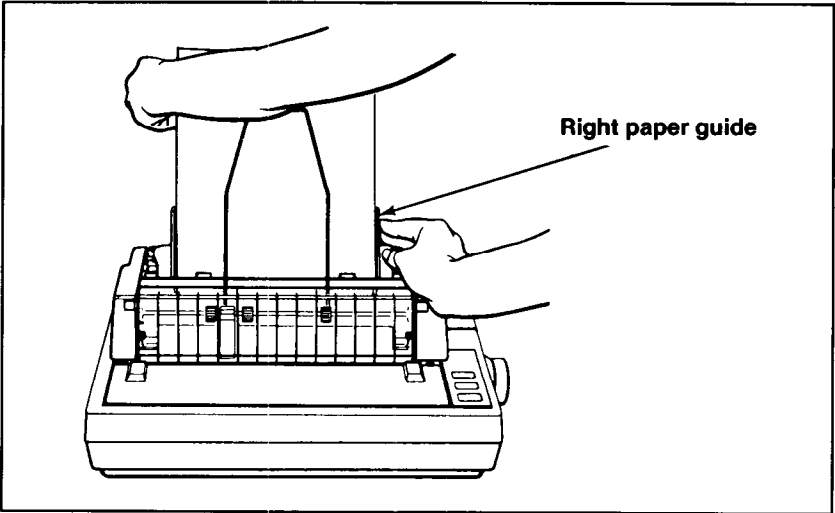

Figure 2-7. Loading paper; adjusting the right paper guide
3. Set the stack of paper in the paper bin, aligning it against the left paper guide as shown in Figure 2-7. Move the right paper guide over to the edge of the stack of paper, but leave a little room so the paper doesn't bind. Make sure the paper is **behind** the angled metal tabs at the bottom of the left and right paper guides.